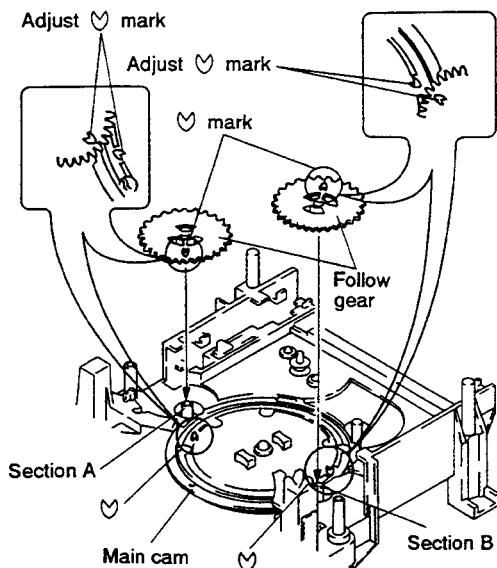

Fig. 2-4
(2) As shown in Fig. 2-4, after adjusting \heartsuit marks (2 points) on the main cam to the same marks on the two follow gears, insert them into the section A and B respectively.